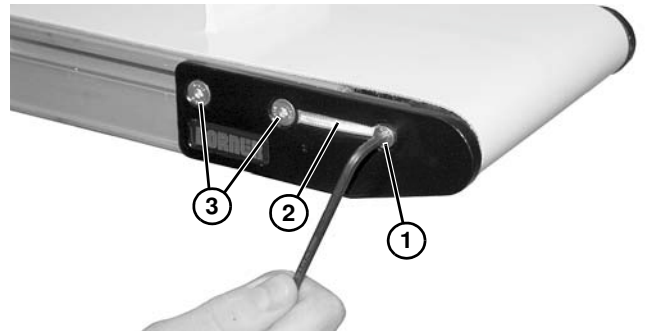

Figure 62
1. On one side of the conveyor, remove screw (**Figure 62, item 1**) and remove dust cover (**Figure 62, item 2**), if installed.
2. Remove two fastening screws (**Figure 62, item 3**).